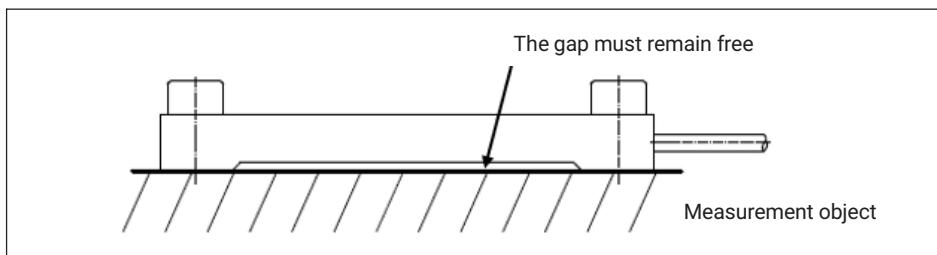

Fig. 7.2 Installing the strain transducer
- The mounting of the strain transducer is shown in Fig. 7.2.
- The strain transducer must not rest in the central, offset area (see Fig. 7.2) and must be mounted without distortion.